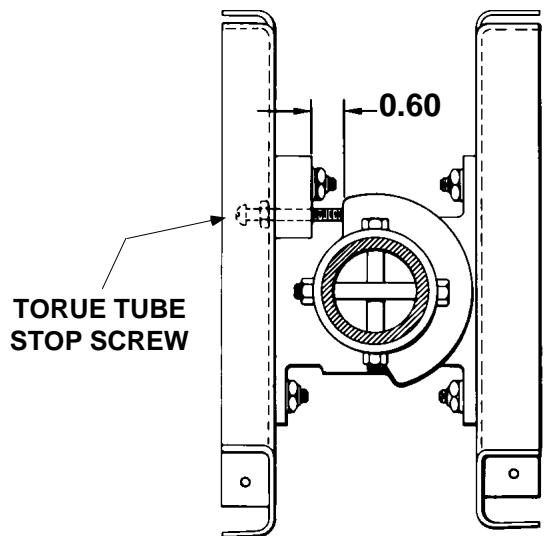

Figure 27-28 Flap Stop Adjustment
- (1) Loosen jam nut of right torque tube stop screw located in floor opening along outer end of flap torque tube.
- (2) Turn stop screw to approximately 0.60 inch between stop fitting and bearing block, as measured along top side of screw. (Refer to Figure 27-28) (It may be necessary to loosen left stop adjustment screw.)
- (3) Place a 0.125 inch spacer between stop fitting and end of screw.